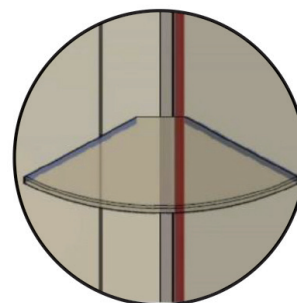

FIG 30.
- After 24-48 hours remove stabiliser blocks (**FIG 30**).